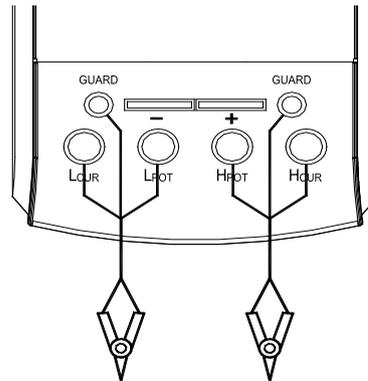

Figure 5
- b When using  $L_{CUR}/L_{POT}/H_{POT}/H_{CUR}$  terminals , insert the black and red testing lines with alligator clip into the " $L_{CUR}$ " , " $L_{POT}$ " terminal and " $H_{CUR}$ " , " $H_{POT}$ " terminal respectively.(shown in figure 5).